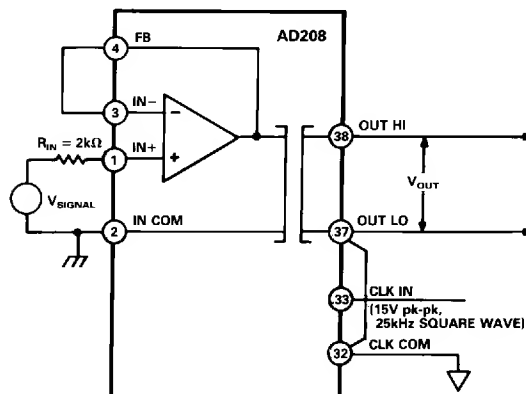

Figure 26. Basic Unity Gain Configuration
A supply bypass capacitor is included in the AD246, however it is recommended that an externally supplied bypass capacitor, as indicated by the dotted circuitry in Figure 26, be used if many AD208s are to be driven by a single AD246. The suggested capacitance value is 1  $\mu$ F for every five AD208s driven. The placement of the bypass capacitor should be as close as possible to the AD246 Clock Driver.
**Unity Gain Input Configuration.** The basic unity gain configuration for input signals of up to  $\pm 5$  V is shown in Figure 26.
**Note on the 2 k $\Omega$  Resistor:** The 2 k $\Omega$  resistor placed in series with the input signal source and the IN+ terminal, designated as  $R_{IN}$  in Figures 26 and 27, is suggested so as to limit the current seen at the input terminals to 2.5 mA when the AD208 is OFF. The 2 k $\Omega$  resistor will also reduce the overload recovery time to 2 ms.
**Signal Inversion.** The circuits illustrated in Figures 26 and 29 are "noninverting." If signal inversion is desired simply interchange the output leads of the circuits shown in Figures 26 or 27 to get inversion. This approach allows for the retention of the high input impedance characteristics of the "noninverting" circuit.